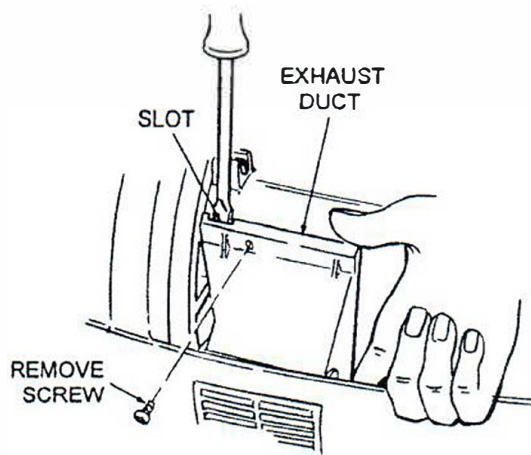

Figure 23. Exhaust Duct and Grill Removal
- D. See Figure 23. Remove exhaust duct screw. Then place flat blade screw driver in slot. While prying exhaust duct away from motor, lift from underneath to remove.